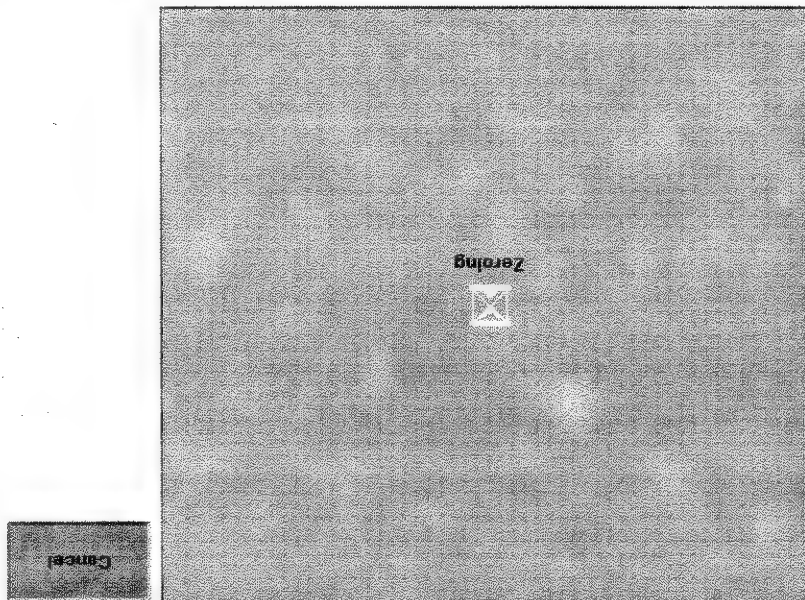

Figure 42 Zeroing Screen
- 3 Move to the <Zero> option to zero the current power measurement channel or the <Zero All> option to zero all power measurement channels. You will see the screen shown in Figure 42. This appears for around 30 seconds while zeroing is performed.